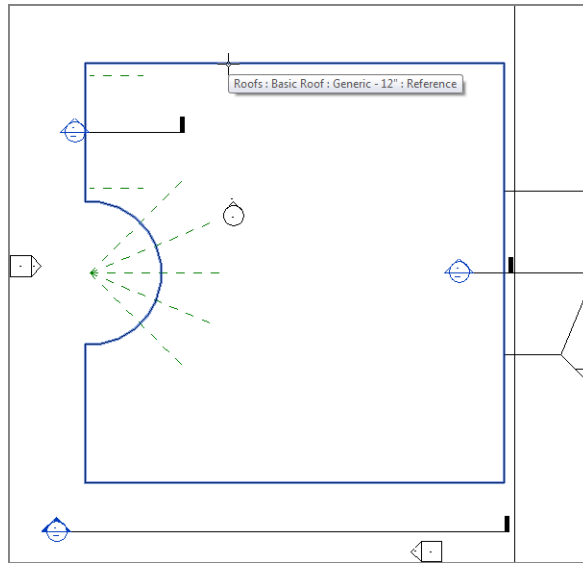

FIGURE 12.78: Picking the roof. Your work plane is now set to slope with the roof. Anything you draw will be on this sloping plane.
5. Pick the roof, as shown in Figure 12.78.